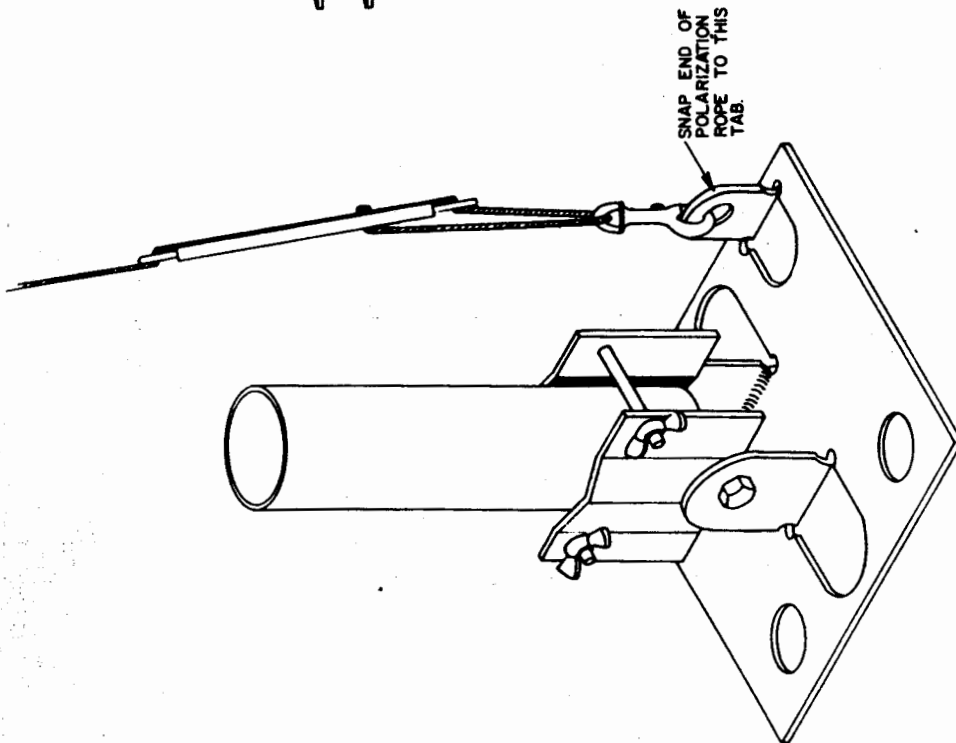
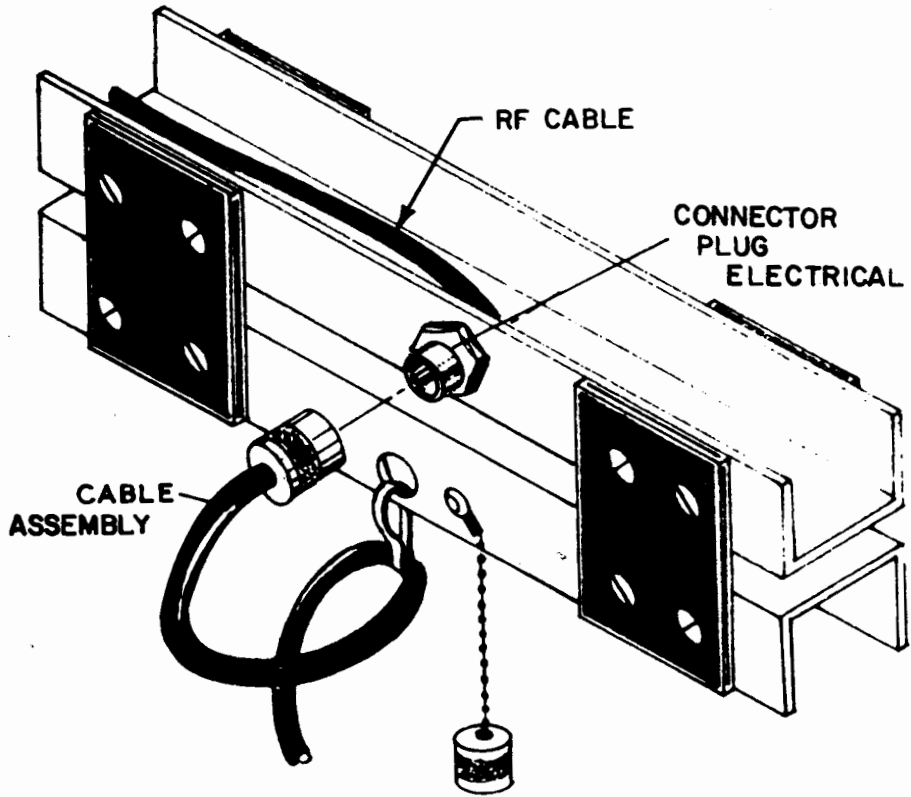

Figure 1-10 Attaching Polarization Rope
Figure 1-11 Connecting Cable Assembly to Rear Boom of Antenna
k. Unroll polarization rope. Hook one end to the ring located on the polarization block. Attach the other end to the tab on the mast base assembly as shown in Figure 1-10. This will put the antenna into horizontally polarized mode when erected. Connect the cable assembly to the connector plug electrical at the rear of the antenna. See Figure 1-11. Fasten the strain relief snap to the hole in the lower boom. Unroll the cable assembly and lay it along the mast to prevent it from getting tangled in the antenna.